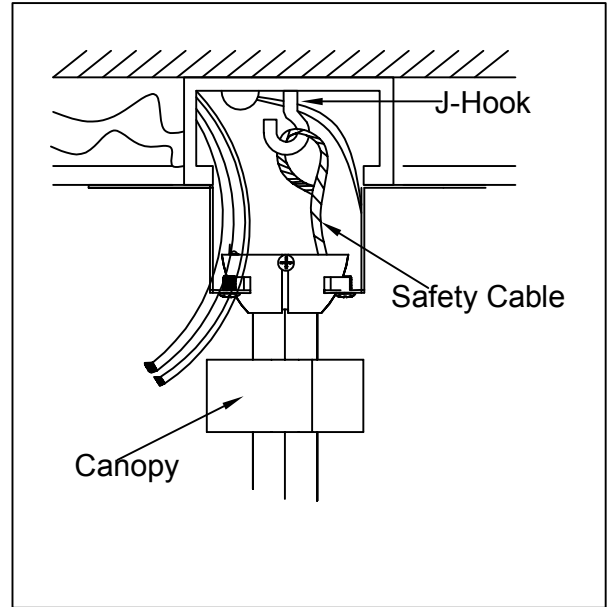

Figure 3.2
- Secure mounting bracket and rubber gaskets to metal outlet box.Hang the safety cable onto the J-hook.(Figure 3.2)